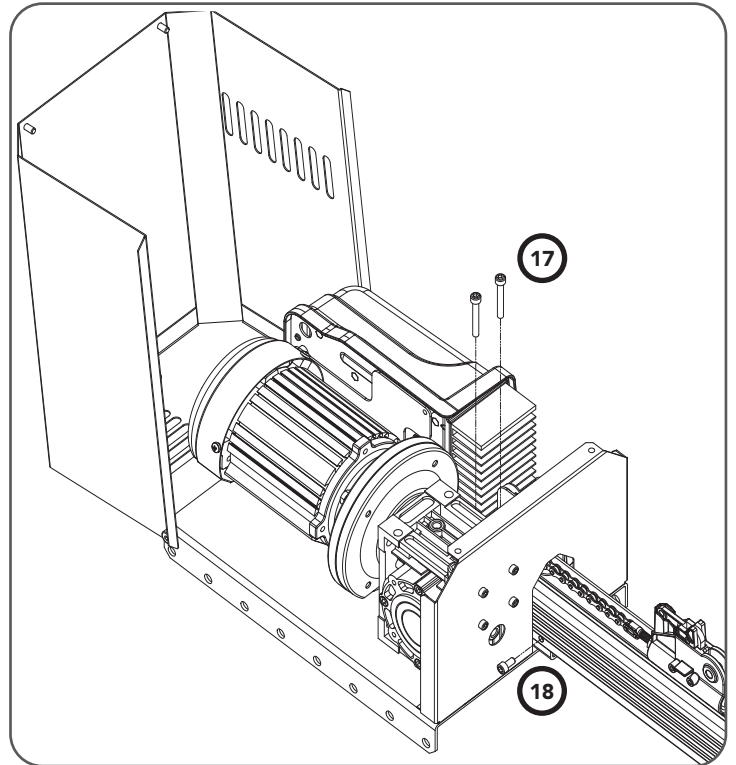

Fig 5.1
- To connect rail (22) to the drive unit, open the cover by removing screws.
- Secure the rail to drive unit with the two (2) M5 x 45 Space Head Cap Screws (17) and two (2) M6 x 12 Space Head Cap Screws (18) using an allen key as shown in **Fig 5.1**.